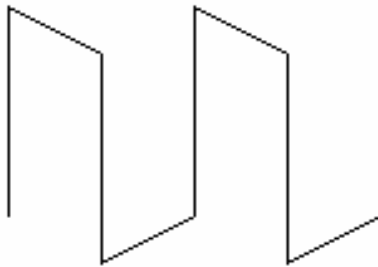
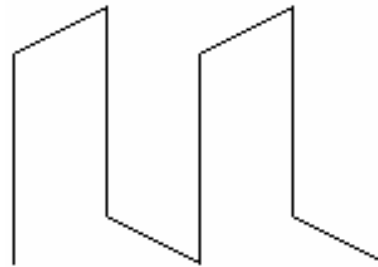

Figure 5-1 Under (increase level)
Figure 5-2 Over (decrease level)
6. Adjust the Reference Deviation digital potentiometer until the top of the waveform is flat. If the waveform top droops increase the level (see Figure 5-1) and if it peaks reduce the level (see Figure 5-2).